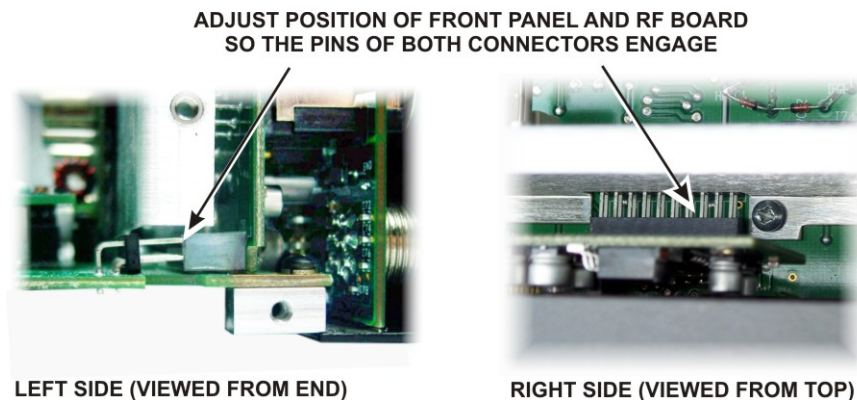

Figure 16. Mounting Front Panel Assembly - Mating P50 and P51.
- Hold the front panel in place against the chassis assembly and turn the unit over to look at the two multi-pin connectors on the top of the RF board. See if they are engaging the corresponding connectors on the front panel assembly (see Figure 16). Adjust the position of the RF board or the front panel assembly to ensure they are mating properly.